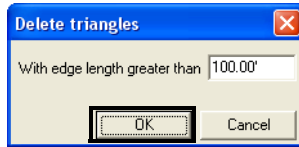

Figure 5-13. Delete Triangles with an Edge Greater Than...
3. Enter a length to delete triangles with at least one edge greater than the entered value (Figure 5-13). 3D-Office deletes all triangles that have at least one edge as long as the length.